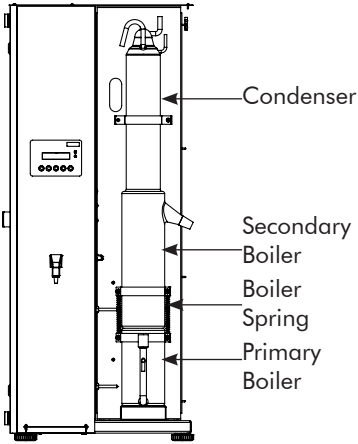

Fig 17.1
1. Position the Secondary Boiler on the Primary Boiler as shown in the diagram (fig. 17.1).